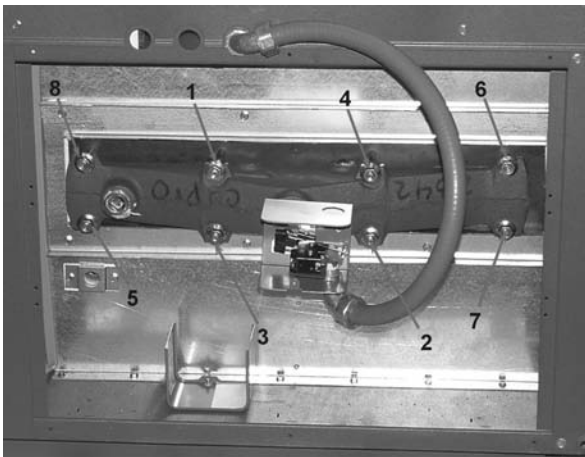

Fig. 9: Torque Sequence
12. Slowly tighten the flange nuts, starting from the center nut (number 1) in Fig. 9 and working sequentially around the header as indicated. Torque all nuts to 25 ft/lb. **DO NOT OVER-TIGHTEN.**